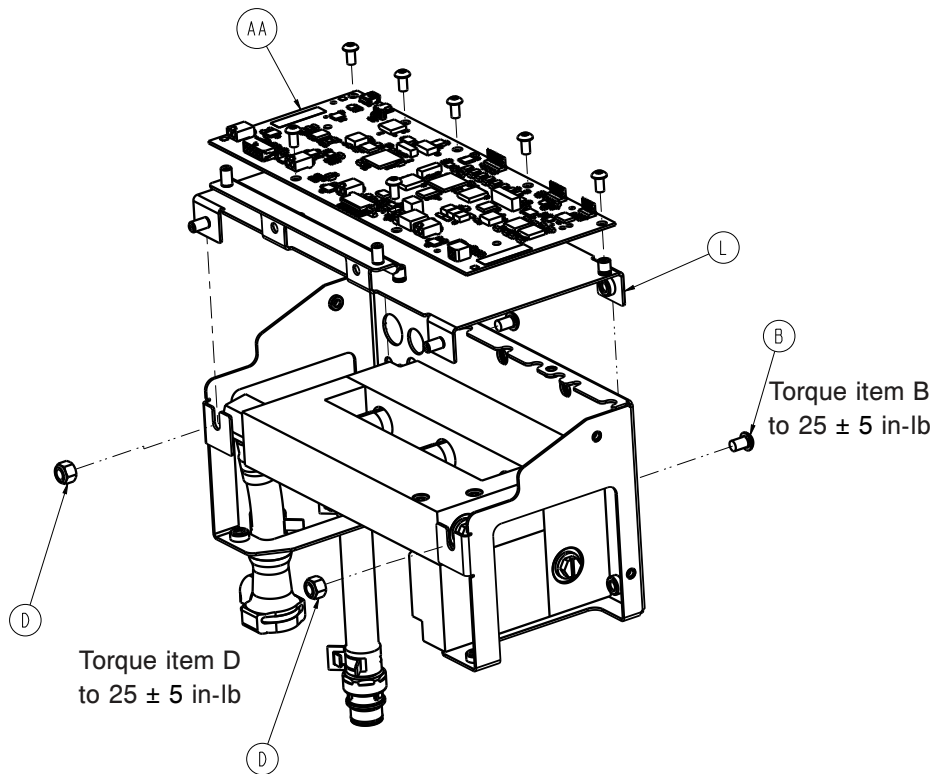

Figure 40 – Outer manifold bracket to MCB support bracket
2. Once the manifold assembly is removed, using a T25 torx remove the two screws (B) securing the outer manifold bracket to the MCB support bracket (Figure 40).
Note - Verify O-ring (E) is seated properly between the return and supply manifolds (Figure 40).